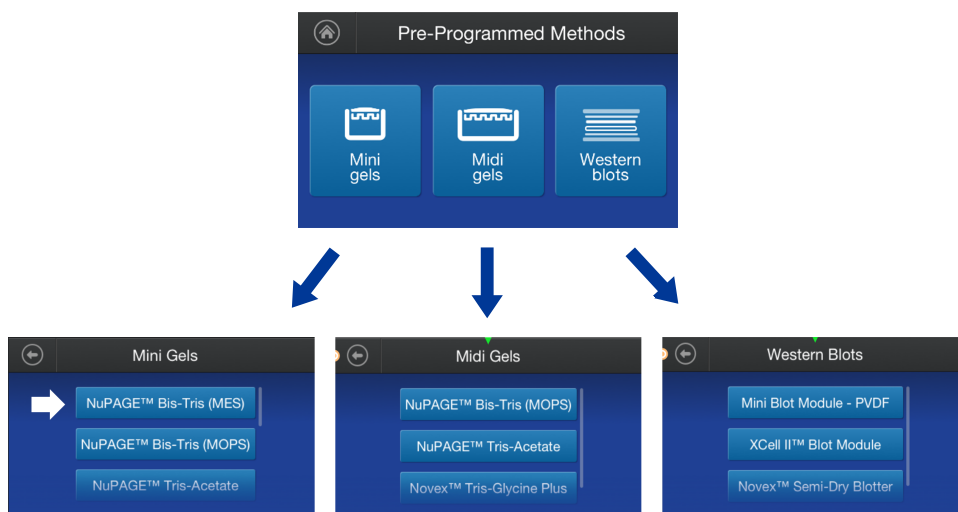

Figure 7 Pre-programmed Methods Screens
2. In the **Pre-programmed Methods** screen, touch either **Mini gels**, **Midi gels**, or **Western blots** (see Figure 7).